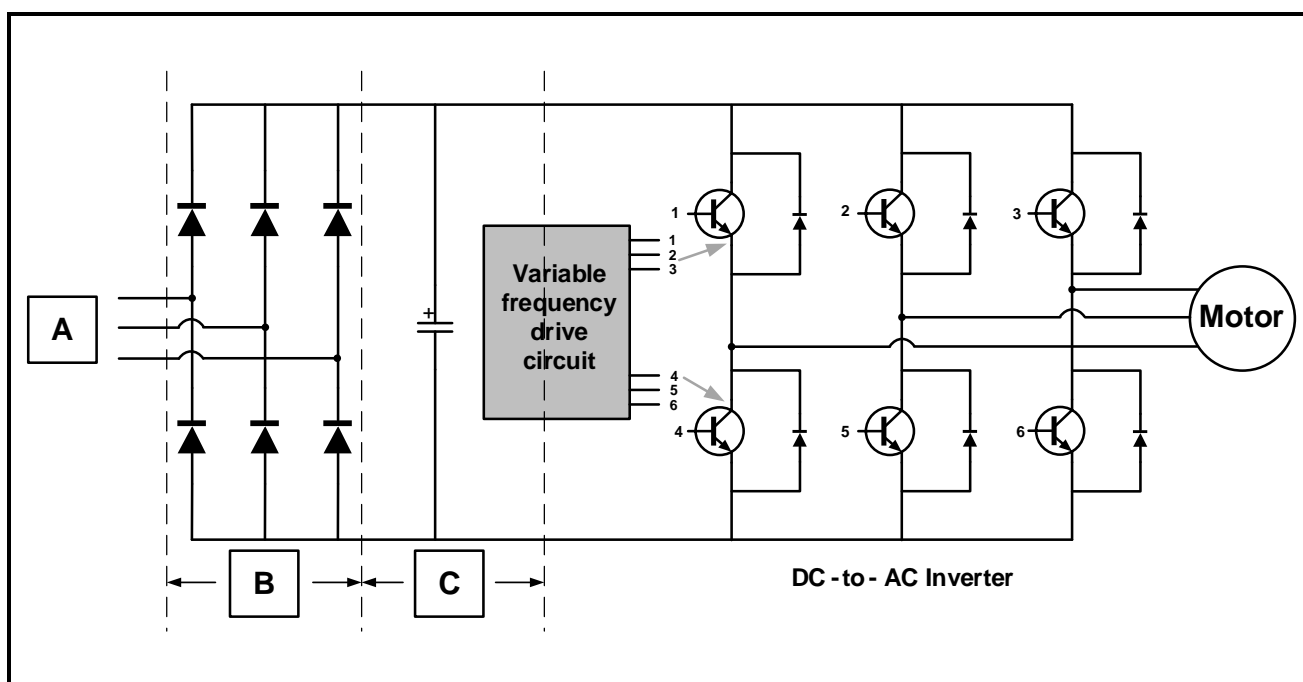

FIGURE 7.5: VARIABLE FREQUENCY DRIVE (VFD) CIRCUIT
7.5 FIGURE 7.5 below shows a variable frequency drive (VFD) circuit. Study the circuit and answer the questions that follow.